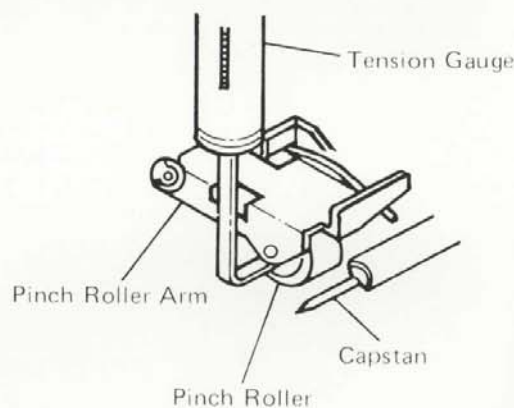

Fig. 11
- Setting the mechanism vertically in the playback mode, the pinch roller should stop turning at the pressure of 380~450 g when the pinch roller arm has been pulled upwards by tension gauge as shown in Fig. 11.